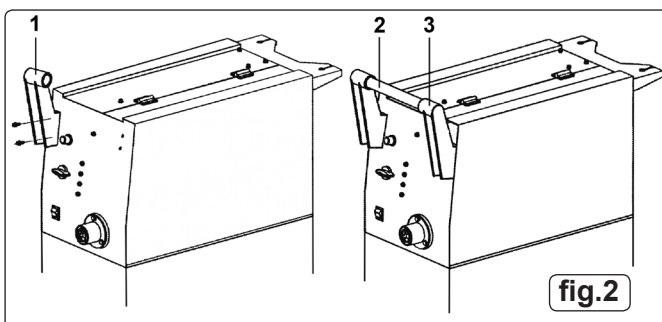

fig.2
- 3.3 ASSEMBLING THE HANDLE:** (Refer to fig.2) On the front of the welder there are two pairs of threaded inserts, one pair in the top left corner and one pair in the top right hand corner.